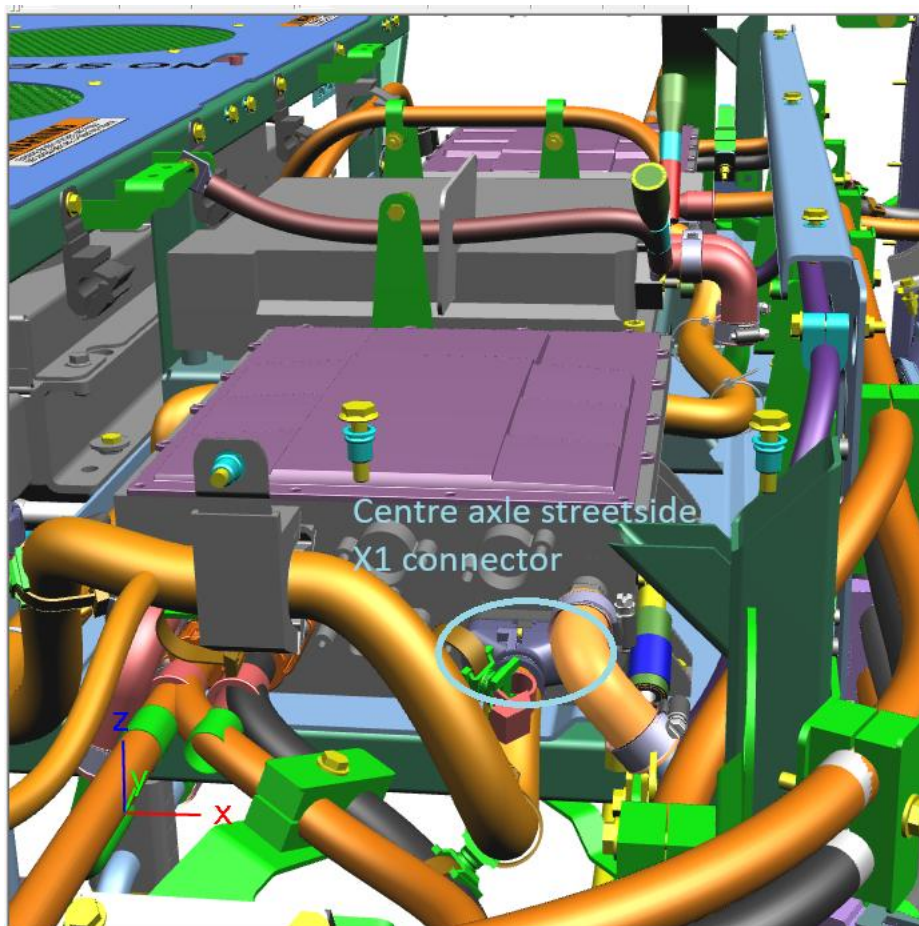

Figure 26: XE60 centre axle streetside traction inverter X1 connector highlighted in light blue
73. Locate the X1 connector on the streetside centre axle traction inverter (see figure 26) and remove it. Secure this connector nearby using Tywraps to reconnect later. Be aware the locking tab is located on the bottom of the connector and needs to be opened.